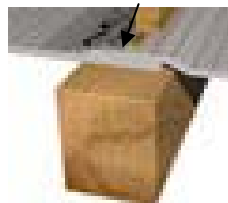

Fig 4A
7. It is **IMPORTANT** to fold all finishing edges under by 50mm minimum, staple every 50mm, and secure with a final batten. Figs 4A and 4B